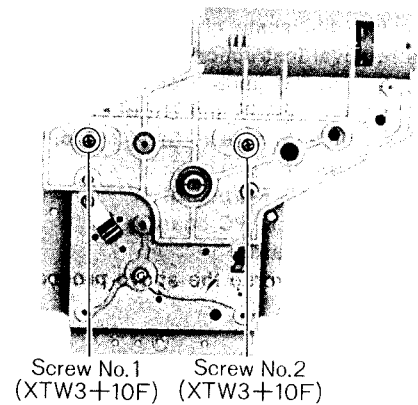

Fig. 6
3. Remove the two (2) screws (nos. 1 & 2) for the dial mechanism, as shown in fig. 6.